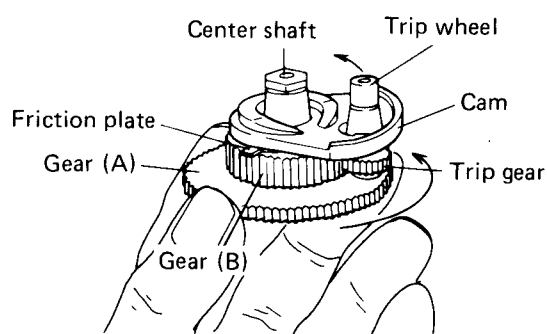
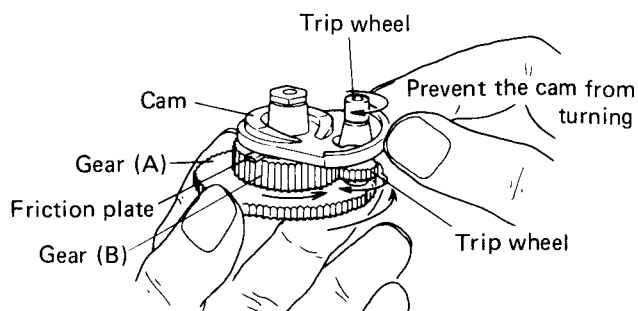

Fig. 11-2 Gear cluster
Fig. 11-3 Gear cluster operation
2. The gear cluster is shown in Fig. 11-2. When the cam is held immovable and gear (A) is rotated in a counterclockwise direction, a small amount of friction is felt, but gear (B) and trip gear also rotate. Note that rotation of the trip gear also rotates the trip wheel. (Fig. 11-3) Also note that when the cam is free to rotate, friction will cause it to rotate in the same direction as gear (A) and (B).
4. Turn the worm gear by hand imitating what would occur if the START/STOP button were depressed causing the motor to rotate the gear. Worm gear rotation causes gear (A) to rotate, and the gears shown in Fig. 11-2 and 11-3 of item 2 above all turn in a clockwise direction.
6. As the assembly rotates further, the trip wheel and PU plate attached to the tonearm shaft come into contact, creating the same condition as occurred in item 2 where the cam was held in an immovable position. Continued rotation of the trip wheel causes the PU plate attached to the tonearm shaft to turn.